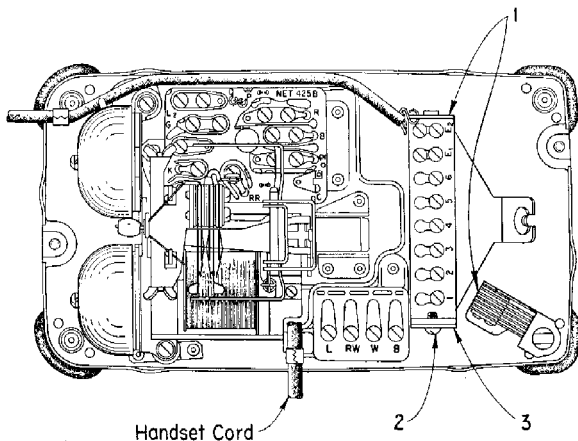

Fig. 3—Top View of 511-Type Set Without Housing Assembly
3.01 Components and parts for the 510 and 511-type sets which may be needed for replacement purposes are indicated by arrows and numbers in Figs. 3 and 4, and are listed in Table 2.